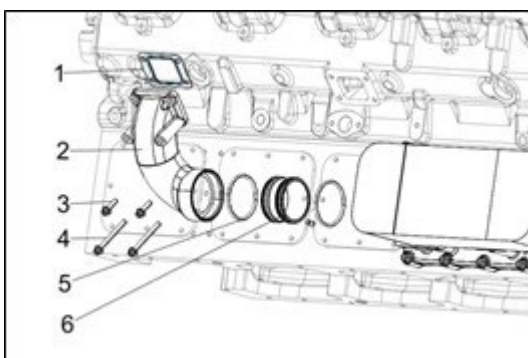

Figure 161
2. Remove the oil cooler water outlet pipe (Fig 161, item 2), loosen the fixed bolts (Fig 161, items 3 and 4) take the water outlet pipe, pay attention to the gasket (Fig 161, item 1).